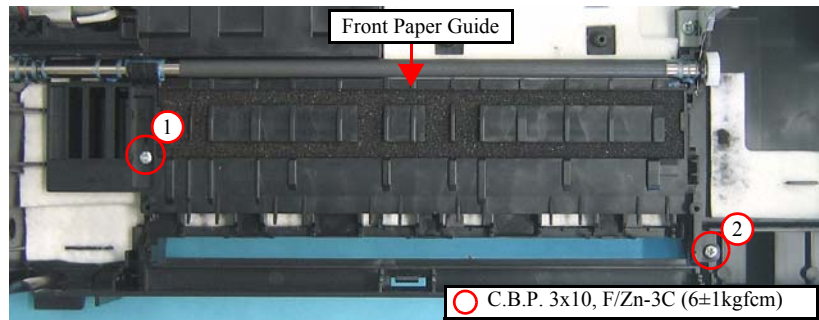

Figure 4-103. Removing the Front Paper Guide (1)
- Tighten the screws in the order given in Figure 4-103.